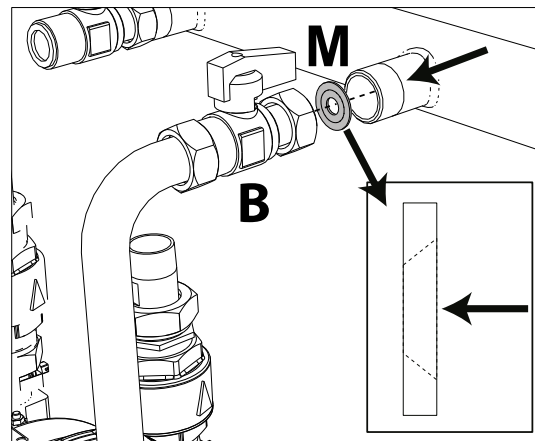

fig. 71- Nozzle for use with LPG
8. In case of **conversion to LPG**, it is necessary to insert the nozzle "M" between the cock "B" and the gas manifold (fig. 71).
ATTENTION: The nozzle "M" (see fig. 71) **must not** be inserted with the unit running on **Natural Gas**.